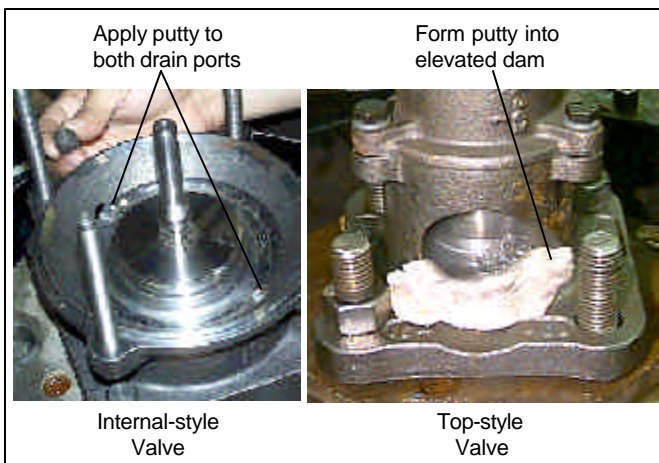

Figure 18 - Blocking Water Drainage with Putty
2) Seal the drain holes of the bowl or top guide with putty (Fig. 18), or a similar material.